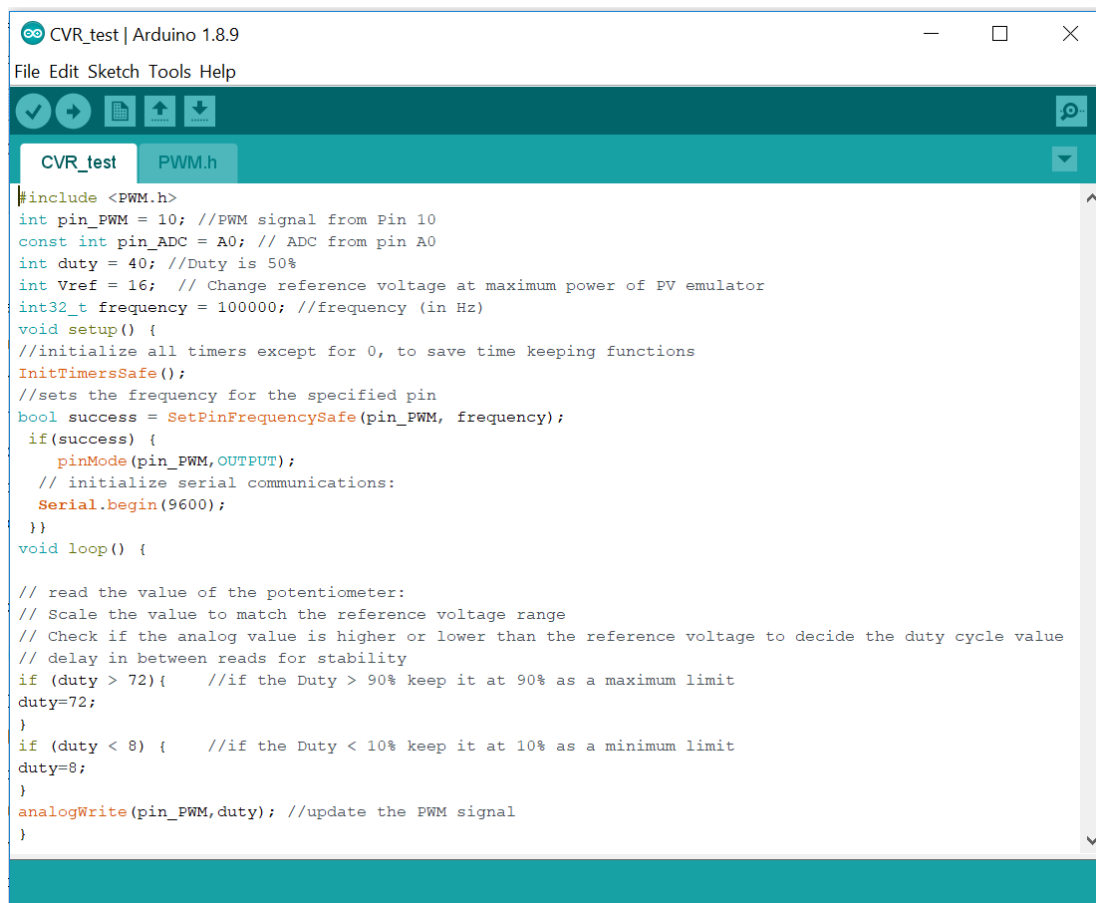

Figure 10: Main framework of program for the Constant Voltage Reference MPPT.
- a) Input the following code to your Arduino programming editor as shown in Fig. 10.